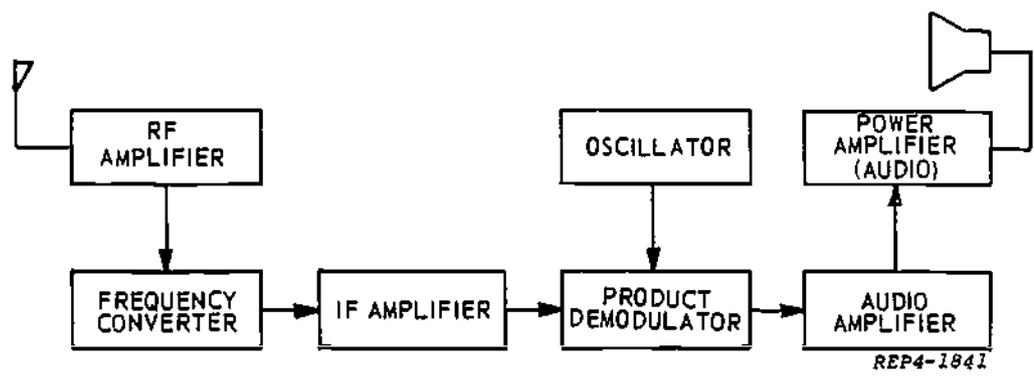

Figure 2. SSB Receiver Block Diagram
4. From the labeled block diagram (figure 2) of an SSB receiver, match each block with the proper statement.